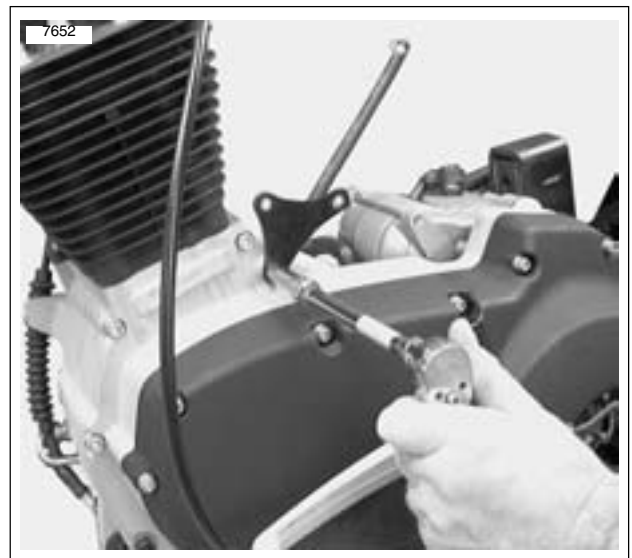

Figure 3-16. Bracket
30. See Figure 3-16. Remove air cleaner box bracket.